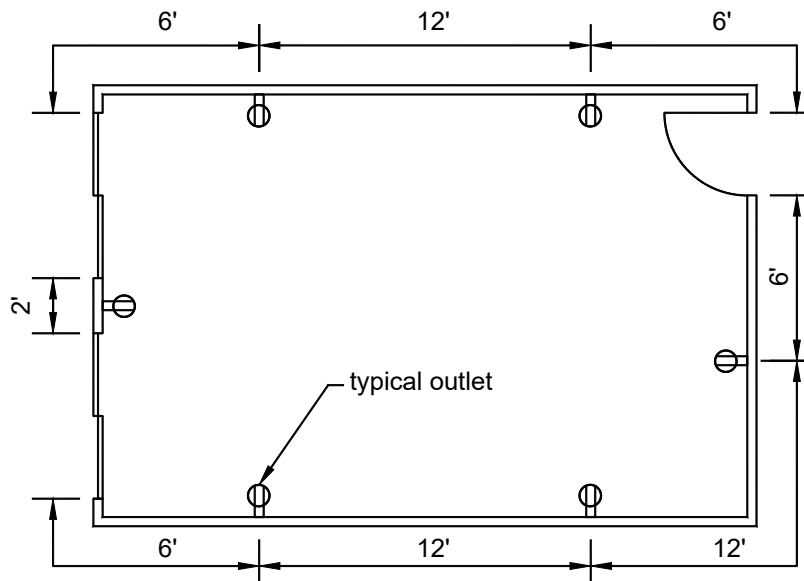

FIGURE 10: TYPICAL OUTLET DISTRIBUTION
- Outlets shall be placed in accordance with FIGURE 10.